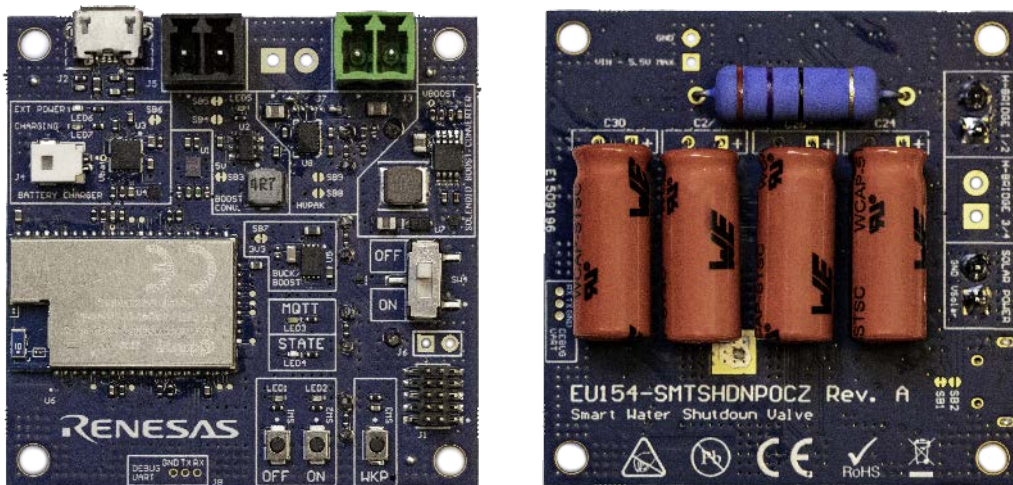

Figure 2: Top and back view of EU154-1 board
2. Unbox the solution kit and take out the board (Figure 2)